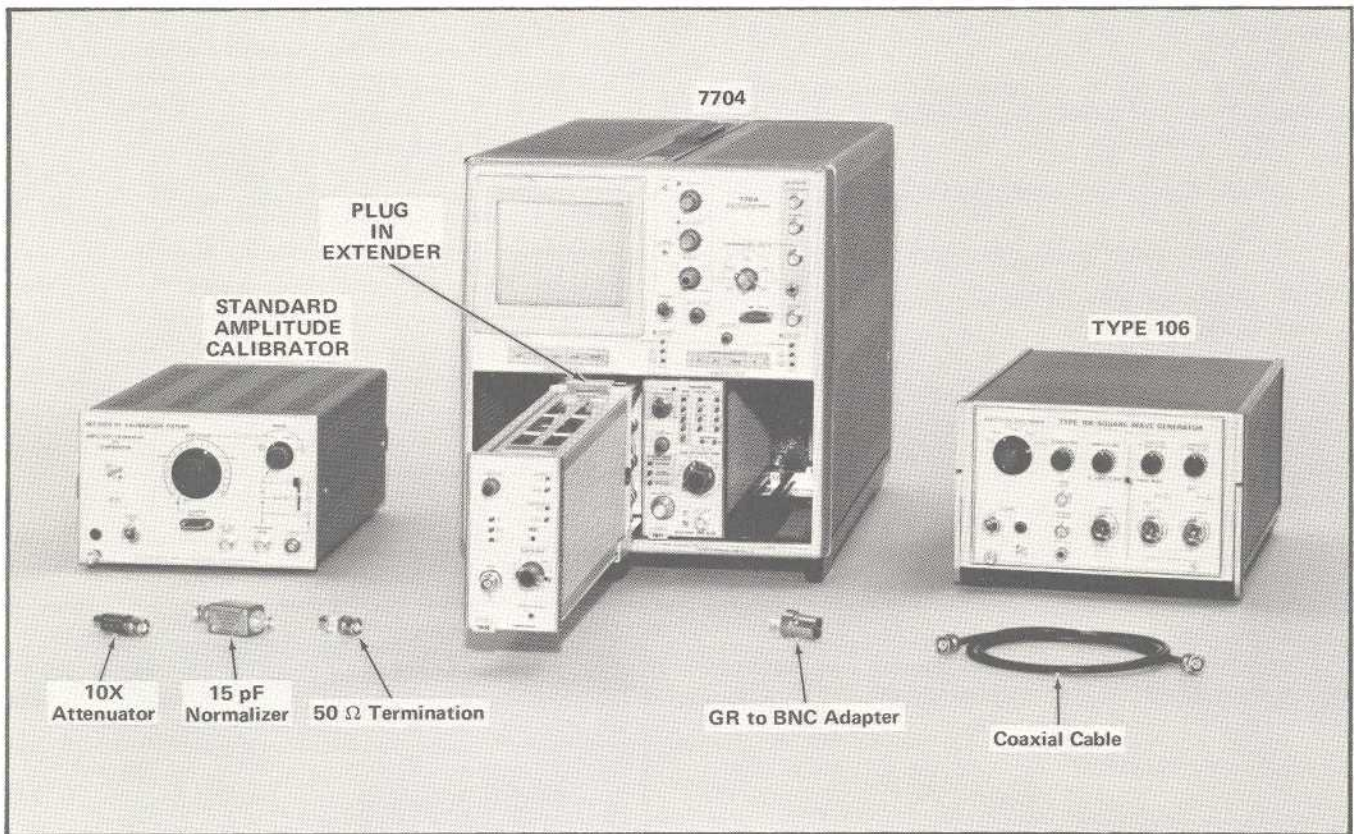

Fig. 5-1. Test equipment required for steps 8 through 12.
a. Test Equipment is shown in Fig. 5-1.